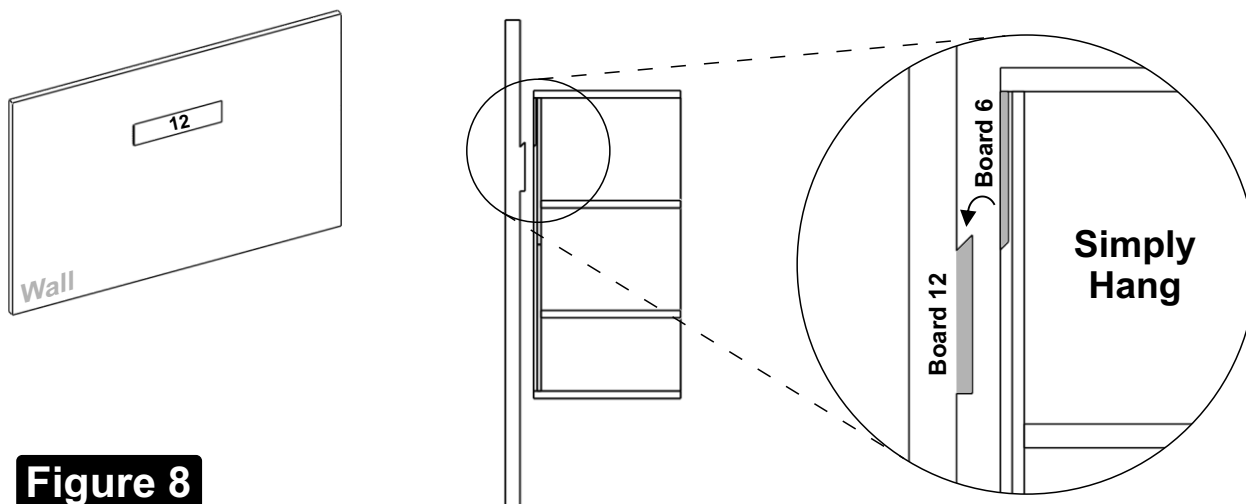

Figure 8
Step 8 : Affix Board 14 on wall. Hang the Cabinet assembly onto the Board 14 as shown in Figure 8.